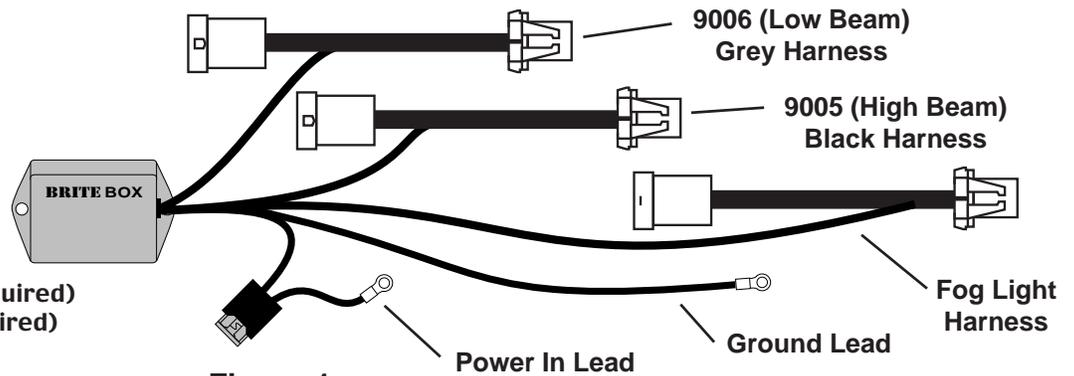

Figure 1
STEP 2: Find a suitable location to mount Brite Box on inner fender of vehicle. Make sure the low and high beam harnesses from Brite Box (see figure 1) can be run to the vehicle's headlight wires. The red wire (attached to fuse holder) of Brite Box must be able to reach positive (+) power lug near main underhood fuse box of truck.
STEP 5: Route Brite Box's FOG LIGHT HARNESS (see Fig. 1) to fog light on same side of truck where you installed Brite Box. Brite Box's fog light harness only needs to be connected to one fog light to work both of them. Make sure wires do not pass over any